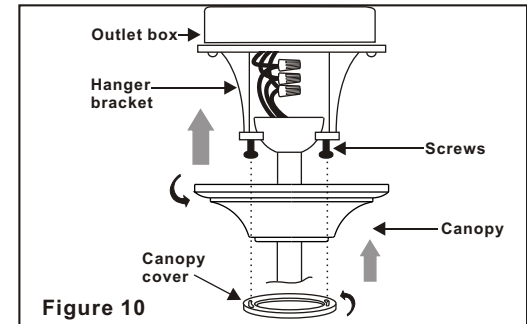

Figure 10
Step 2. Slide the canopy up to ceiling and over the 2 screws on the hanger bracket. Rotate canopy clockwise. Next, while holding the canopy with one hand, slide the canopy cover over the screws and rotate clockwise until tight. **Note:** adjust the canopy screws as necessary until the canopy and canopy cover are snug. (Fig. 10)